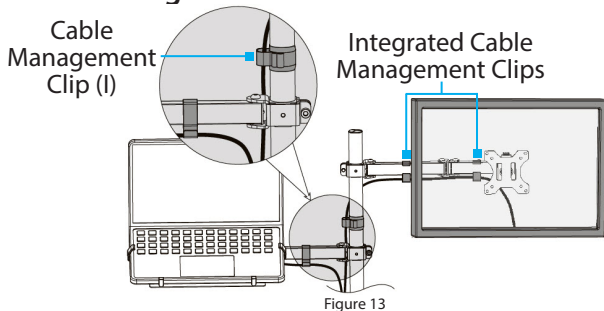

Figure 13
- Route the **Laptop/Monitor Cables** through the **Integrated Cable Management Clips**, located on the **Arms (B)**, and the **Cable Management Clip (I)**, located on the **Pole (G)**, and to their respective **Power/Video Sources**.(Figure 13)